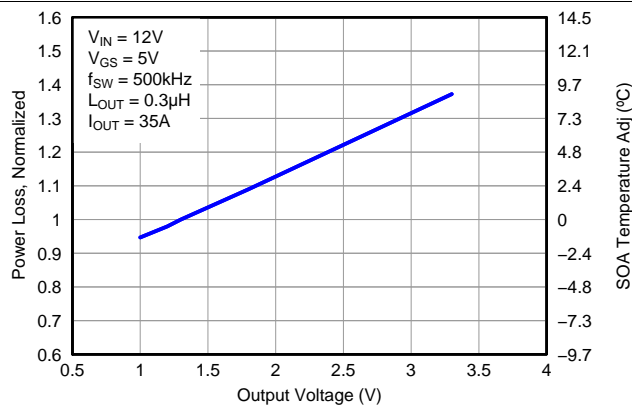

Figure 8. Normalized Power Loss vs Output Voltage
- Normalized power loss for output voltage ≈ 0.95 (Figure 8)
- SOA adjustment for output voltage $\approx -1.3^\circ\text{C}$ (Figure 8)